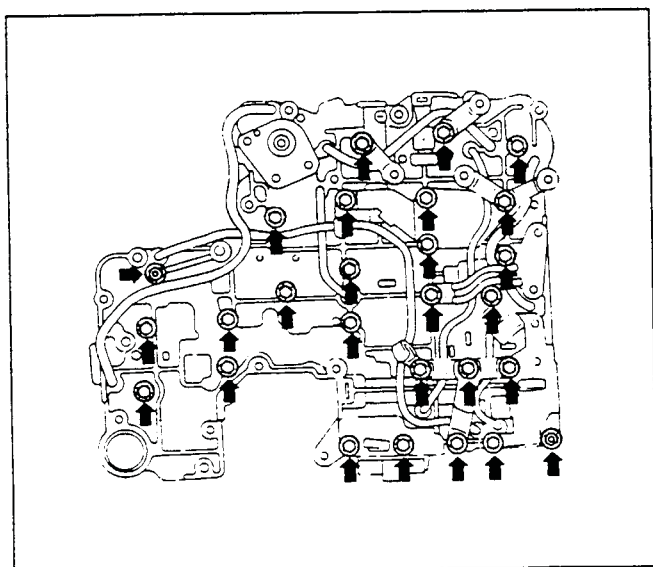

Figure 84. Upper and Lower Valve Body Removal
(Figures 84 and 85)
1. With the upper valve body facing down, loosen the bolts and nuts (figure 84), and remove the lower valve body, separator plate and valve body gaskets as a unit from the upper valve body.